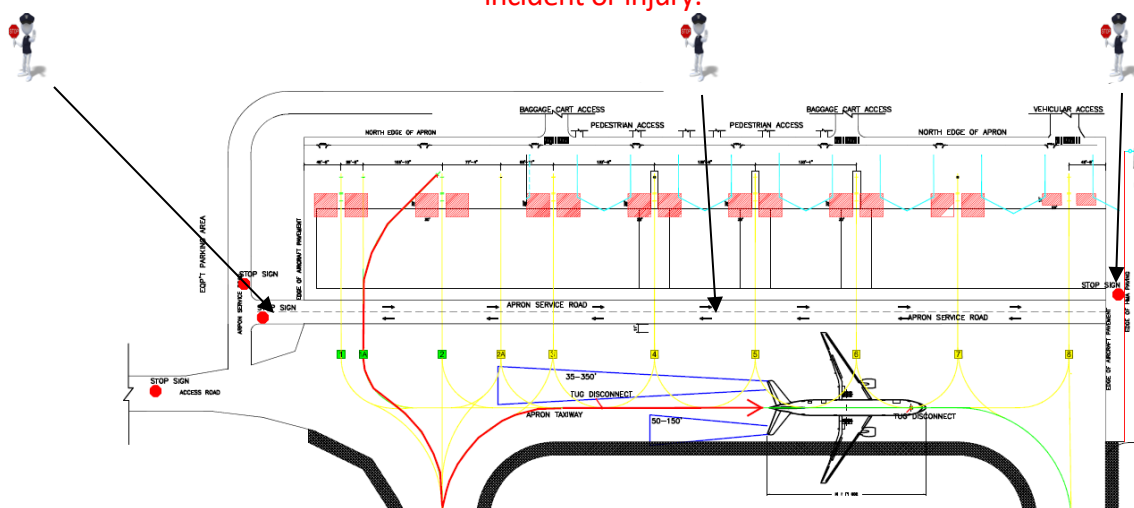

Figure 3
When ready to depart, with Marshal in position at the nose of the aircraft and a wing walker on each wing, communication is established with the aircrew to verify permission has been granted to push-back. The Marshal will signal his intention to move the aircraft back and the wing walkers shall face the driving lane and walk forward, taking up a position in the driving lane in order to ensure traffic is stopped in all directions to accommodate safe passage of the aircraft. As each wing clears the driving lane the wing walkers will respectively move with that wing. Before disconnecting the tow tractor will **ensure aircraft nose wheel is properly centered on taxiway line** at a point behind the designated “Tug Disconnect” marker near taxiway “C” (**see figure 3**). At this point the Marshal can now signal for the pilot to start their engines.
- i. AOCC Airport Duty Officer will contact the Airside Duty Officer, Safety Office, and Security Office and dispatch appropriate personnel to take up post as shown in **figure 3** in order to stop the flow of traffic in the driving lane;
- III. With Marshal in position at the nose of the aircraft and a wing walker on each wing, communication is established with the aircrew to verify permission has been granted to push-back. The Marshal will signal his intention to move the aircraft back and the wing walkers shall face the driving lane and walk forward, taking up a position in the driving lane in order to ensure traffic is stopped in all directions to accommodate safe passage of the aircraft. As each wing clears the driving lane the wing walkers will respectively move with that wing. The Aircraft will be pushed back to a point on taxiway "C" and then pulled forward on the taxilane in the direction of taxiway 'D'. Before disconnecting, the tow tractor driver will **ensure aircraft nose wheel is properly centered on taxiway line** at a point behind the designated "Tug Disconnect" marker near taxiway "D" (see figure 3 below). At this point the Marshal can now signal for the pilot to start their engines.
Note- When approaching the painted "STOP" signs on the ground at the entryways to the Commercial Apron vehicular service lane (Figure 3), or attempting to enter this lane from any other location on the Apron, all drivers will come to a full stop and look for signs of aircraft movement in any direction. In the event that an aircraft, wing walkers, or other personnel directing traffic are present in the apron driving lane, do not proceed into the lane but rather wait until the aircraft or personnel have exited the driving lane before continuing on your journey. If you are already in this driving lane please give way to aircraft and vacate lane as soon as possible to avoid incident or injury.